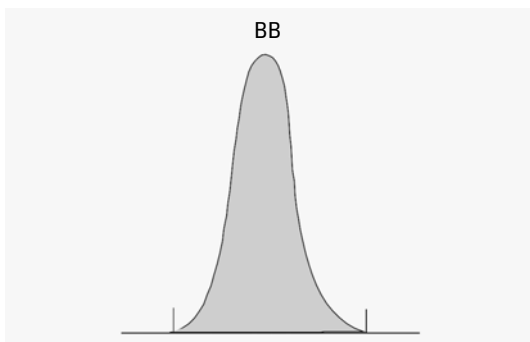

Figure 19 Area measurement for Baseline-to-Baseline Peaks
- for baseline-to-baseline (BB) peaks, the area above the baseline between the peak start and peak end, as in Figure 19 on page 46,